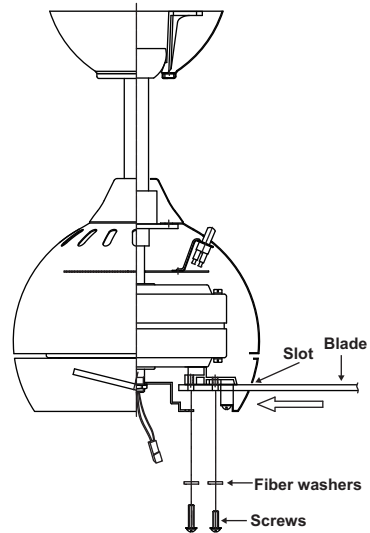

Figure 14
Step 1. Insert the blade through the slot in the housing. Align the holes in blade and motor and secure with the screws and fiber washers. (Fig. 14)